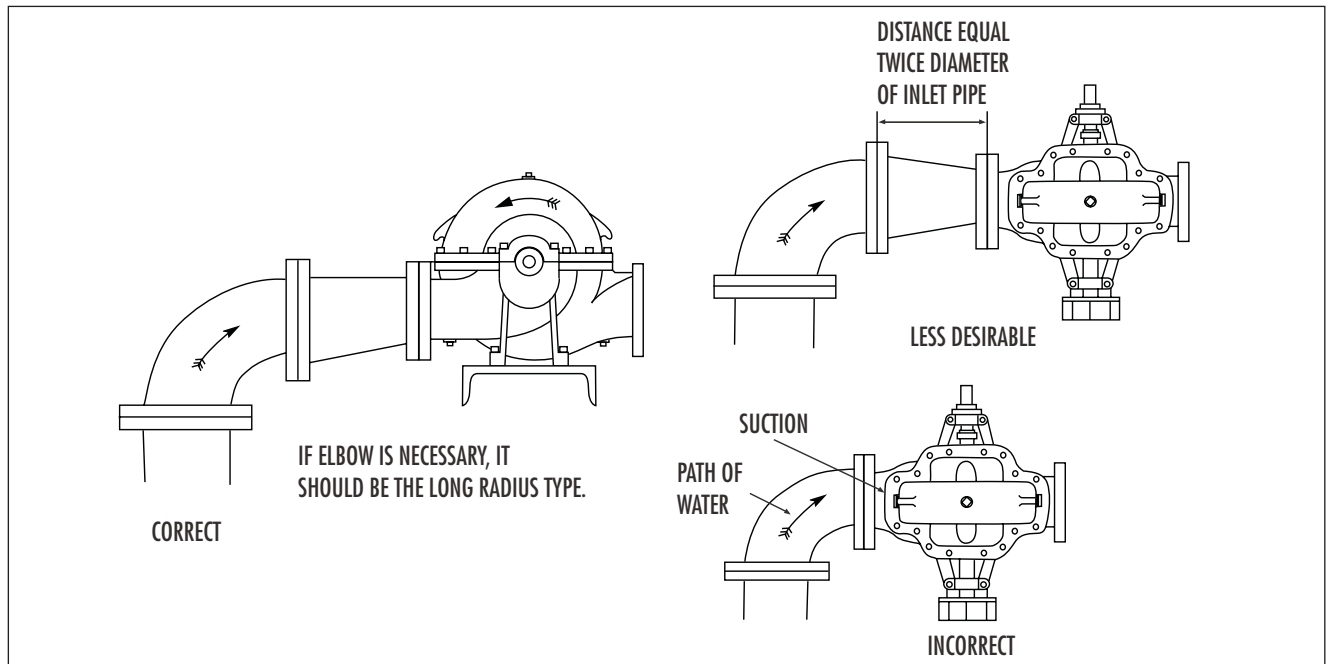

Figure 4. Installation of elbows.
**ELBOWS.** Long radius elbows should be used in place of standard elbows wherever possible because of their superior flow characteristics. For instance, head loss in a standard four inch elbow is equivalent to the head loss in a piece of pipe 11 feet long, while the head loss in a long radius elbow is approximately half as much. Elbows should not be used at the suction nozzle, but if it is unavoidable, they should be installed in a vertical position. Elbows installed in any position at the suction nozzle have a tendency to distribute the liquid unevenly in the impeller chamber, causing a reduction in capacity, and creating an undesirable thrust condition. Refer to Fig. 4.